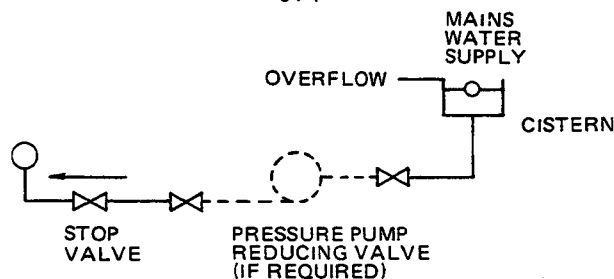

FIG. 5 CISTERN FILLING METHOD
(1) Cistern Method (see Fig.5)
(2) Booster Pump Method (see Fig.5)